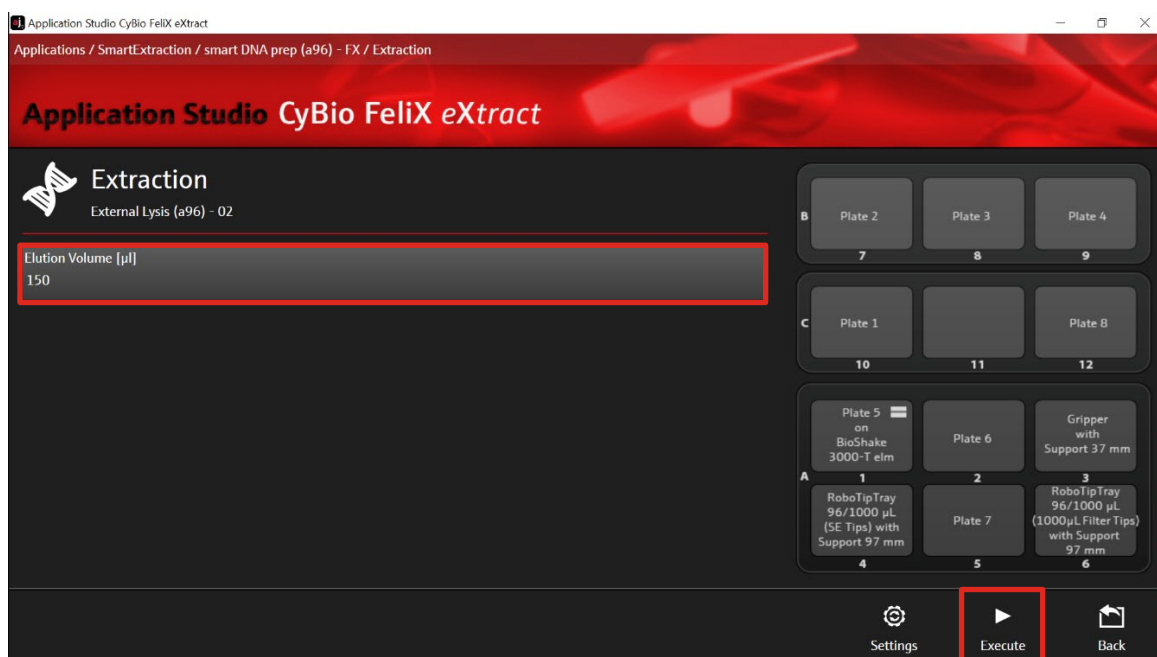

Figure 16: Adjustment of elution volume.
8. After selecting Extraction, the Extraction Start Screen appears (→ see Figure 16).
10. Adjust the "Elution Volume" to 150-500 µL according to the table below. Start the protocol by clicking the button "Execute" (→ see Figure 16).